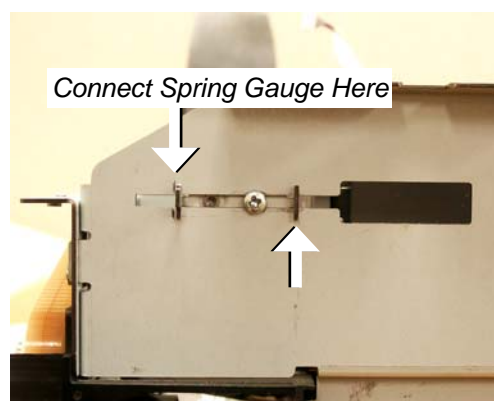

Figure 5-31 Scribe Tensioner Location
2. Scribe location of belt tensioner assembly as shown in Figure 5-31.
1. Loosen the adjustment screw shown in Figure 5-31.